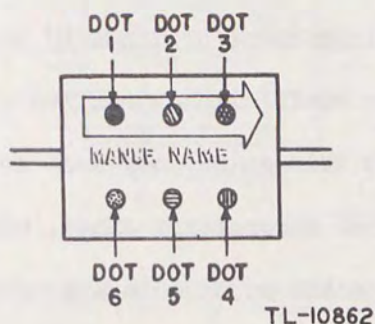

Figure 11. Molded-mica capacitors. AWS six-dot color code.
c. The AWS Code for Mica Capacitors. (1) The AWS (American War Standard) code for molded-mica capacitors is shown in figure 11. Like the RMA code, it makes use of six colored dots, but with somewhat different significance. The first four dots give the capacitance in micromicrofarads as follows: first significant figure, second significant figure, third significant figure, and the decimal multiplier. It will be noted that this scheme makes provision for marking units with three significant figures. However, none of the capacitors standardized under the AWS code requires more than two significant digits to specify its capacitance. The first dot on all molded-mica capacitors, marked with the AWS code, is black, and the two necessary significant figures are given by the second and third dots. As a result the black first dot becomes an important feature or identification symbol for a molded-mica capacitor marked according to the AWS code. A few examples may serve to make this clear. A 120-micromicrofarad capacitor is marked as follows: black (0), brown (1), red (2), brown (10), indicating a molded-mica capacitor of 120 micromicrofarads. A 9,100-micromicrofarad capacitor will be marked black (0), white (9), brown (1), red (100), in-